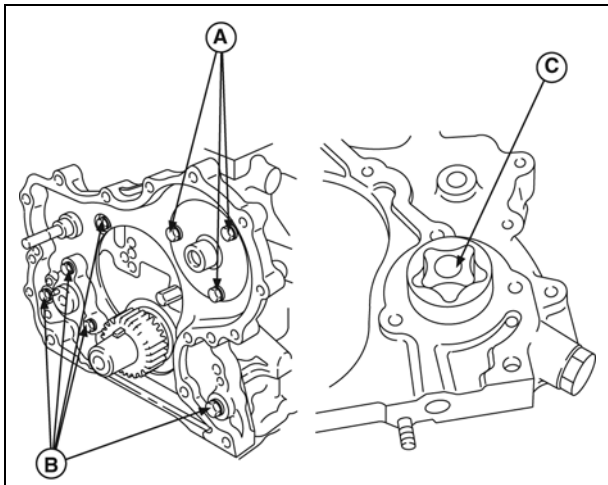

Figure 11
1. Remove three screws (**A**, Figure 11) and camshaft retainer.